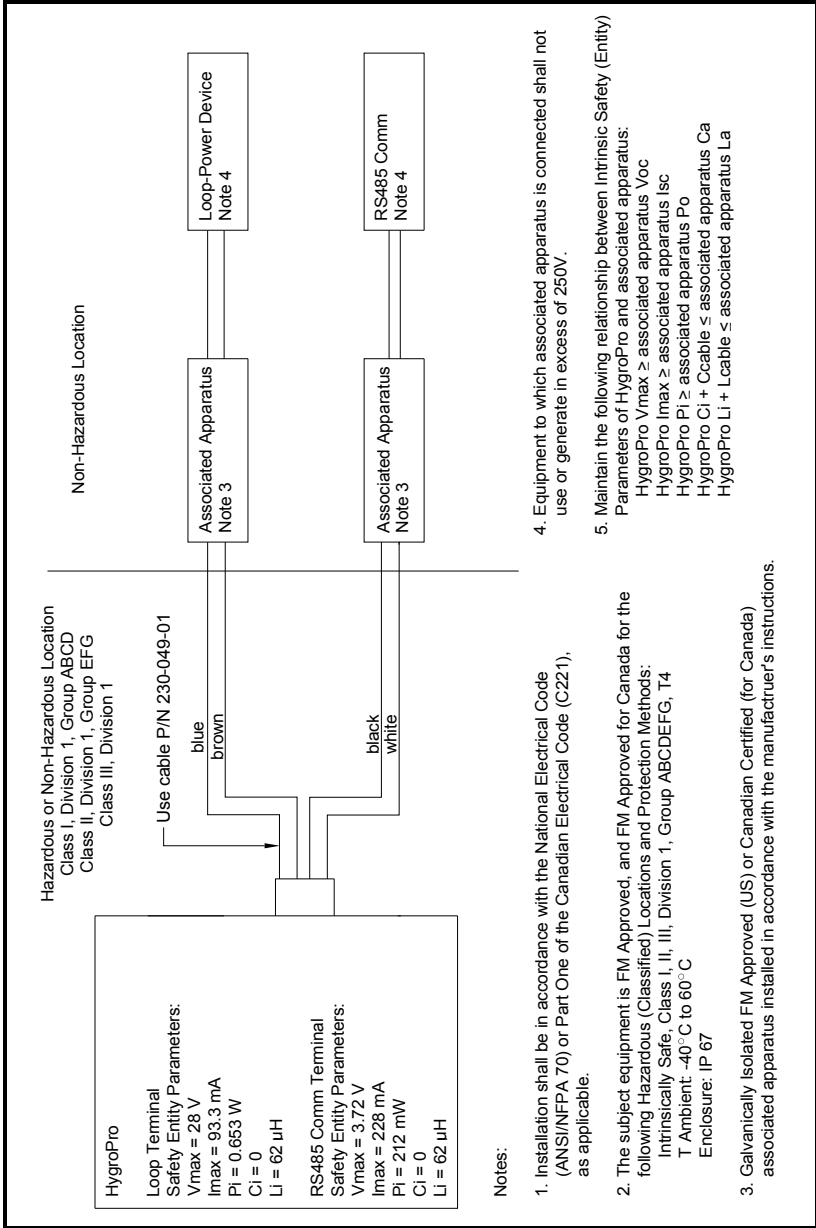

Figure 5: FM Schematic (ref. dwg #752-262)
- the FM Schematic drawing (see *Figure 5* on the next page)